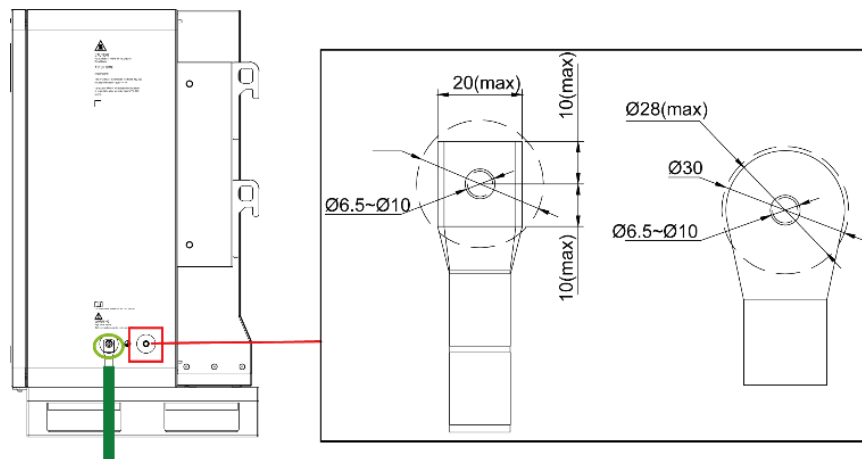

Figure 4-5 External Ground Cable Connection
- Connect at the external grounding point as shown in Figure 4-5) using the M6x16 combination bolt.